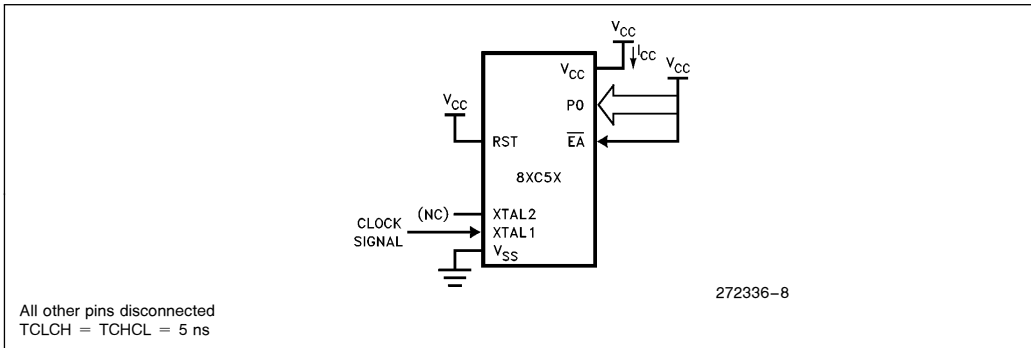

Figure 6.  $I_{CC}$  Test Condition, Active Mode
3. See Figures 6–9 for test conditions. Minimum  $V_{CC}$  for Power Down is 2V.